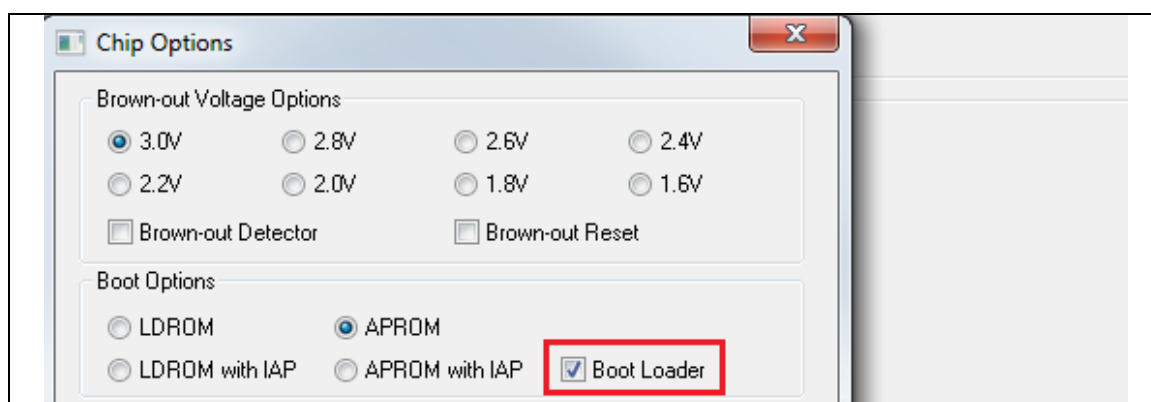

Figure 8-14 Boot Loader Option
- Step3:** Click **“Setting”** button to enable **“boot Loader”** option in Figure 8-14